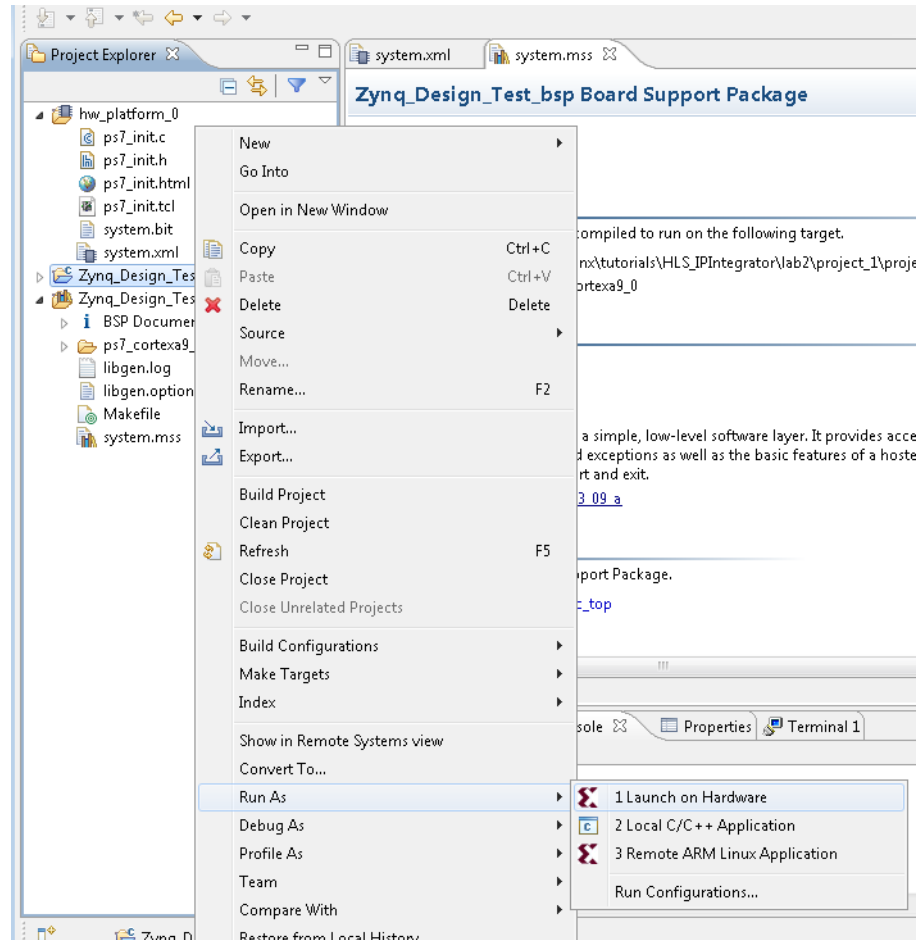

Figure 10-25: Run the Application Project
9. Right-click the application project **Zynq_Design_Test** in the Explorer pane (Figure 10-25).